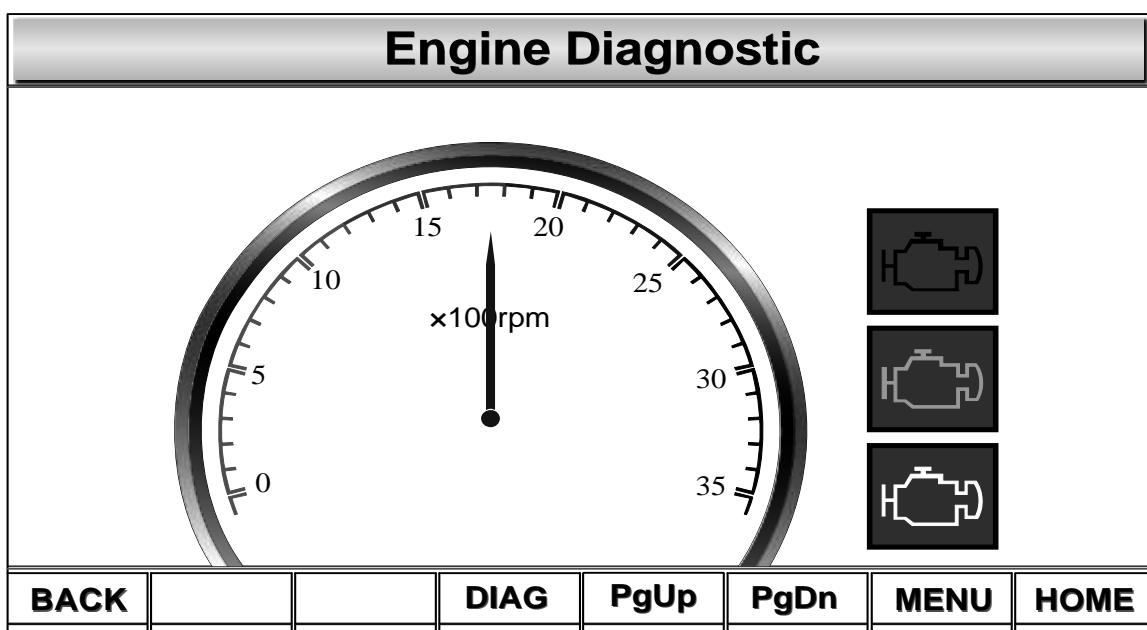

Figure 6-31 Engine Diagnostic
- A. Engine Diagnostic: move the cursor to select the icon "Engine Diagnostic" and press the key "ENTER" to enter the Engine Diagnostic Screen. Refer to Figure 6-31.